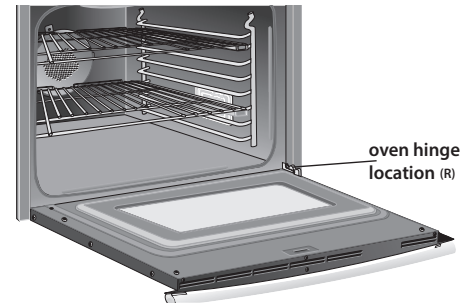

Figure 39: Oven hinge locations
1. Open oven door completely (Figure 39).
3. Open the oven door down to the fully open position. (Figure 39).